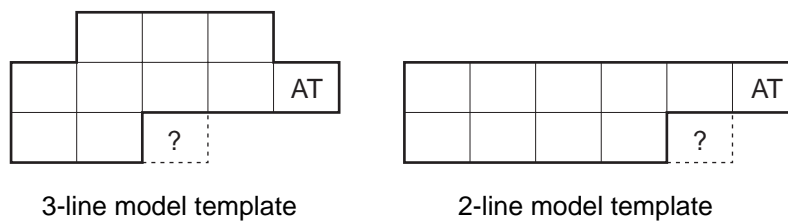

Figure 2-403 Model Templates
- b. Figure 2-403 shows model templates (enclosed by thick lines). Combinations of pixels (pixel pattern; 10 bits) are communicated to the arithmetic coding block.